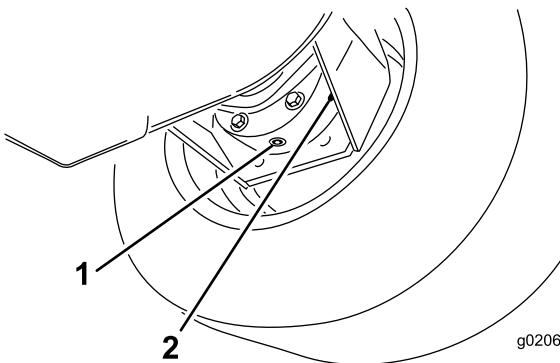

Figure 83
3. Place a drain pan under the brake housing, remove the drain plug, and allow the oil to drain (Figure 83).